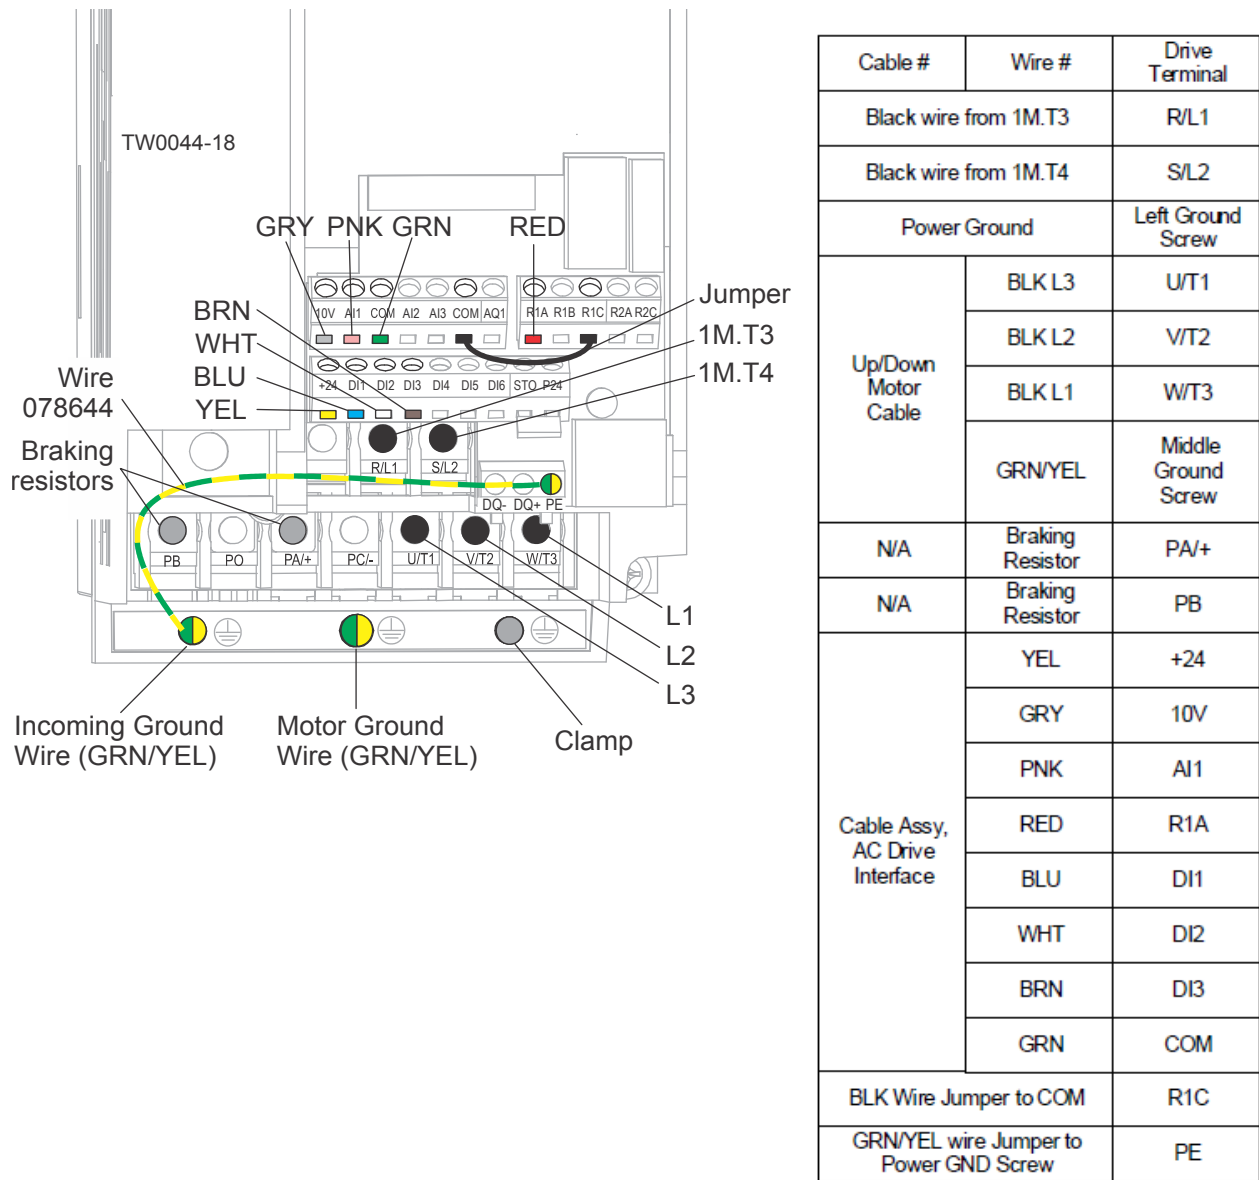

FIGURE 4
- 23. Open the AC drive (U1) cover and connect the cable wires to the drive as shown in figure 4. Be sure to leave all existing jumper wires connected.
See Figure 4.